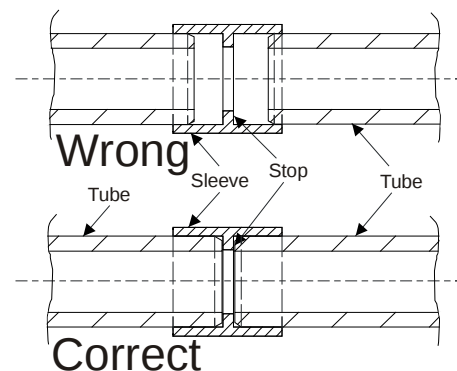

Fig. 22 Joining the tubes
- The individual pipe sections are connected to each other with fittings. Depending on the used tube material, gluing as described in Sec. 5.5.2 and 5.5.3 or pressing as described in Sec. 5.5.4 is used. The tubes are pushed into the fittings to the stop (**Fig. 22**).